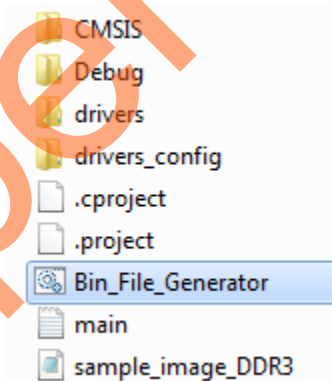

Figure 22. Bin File Generator
3. Double-click the batch file **Bin-File-Generator.bat** located at: `SoftConsole/CodeShadowing_MSS_CM3/Sample_image_DDR3` folder, as shown in Figure 22.